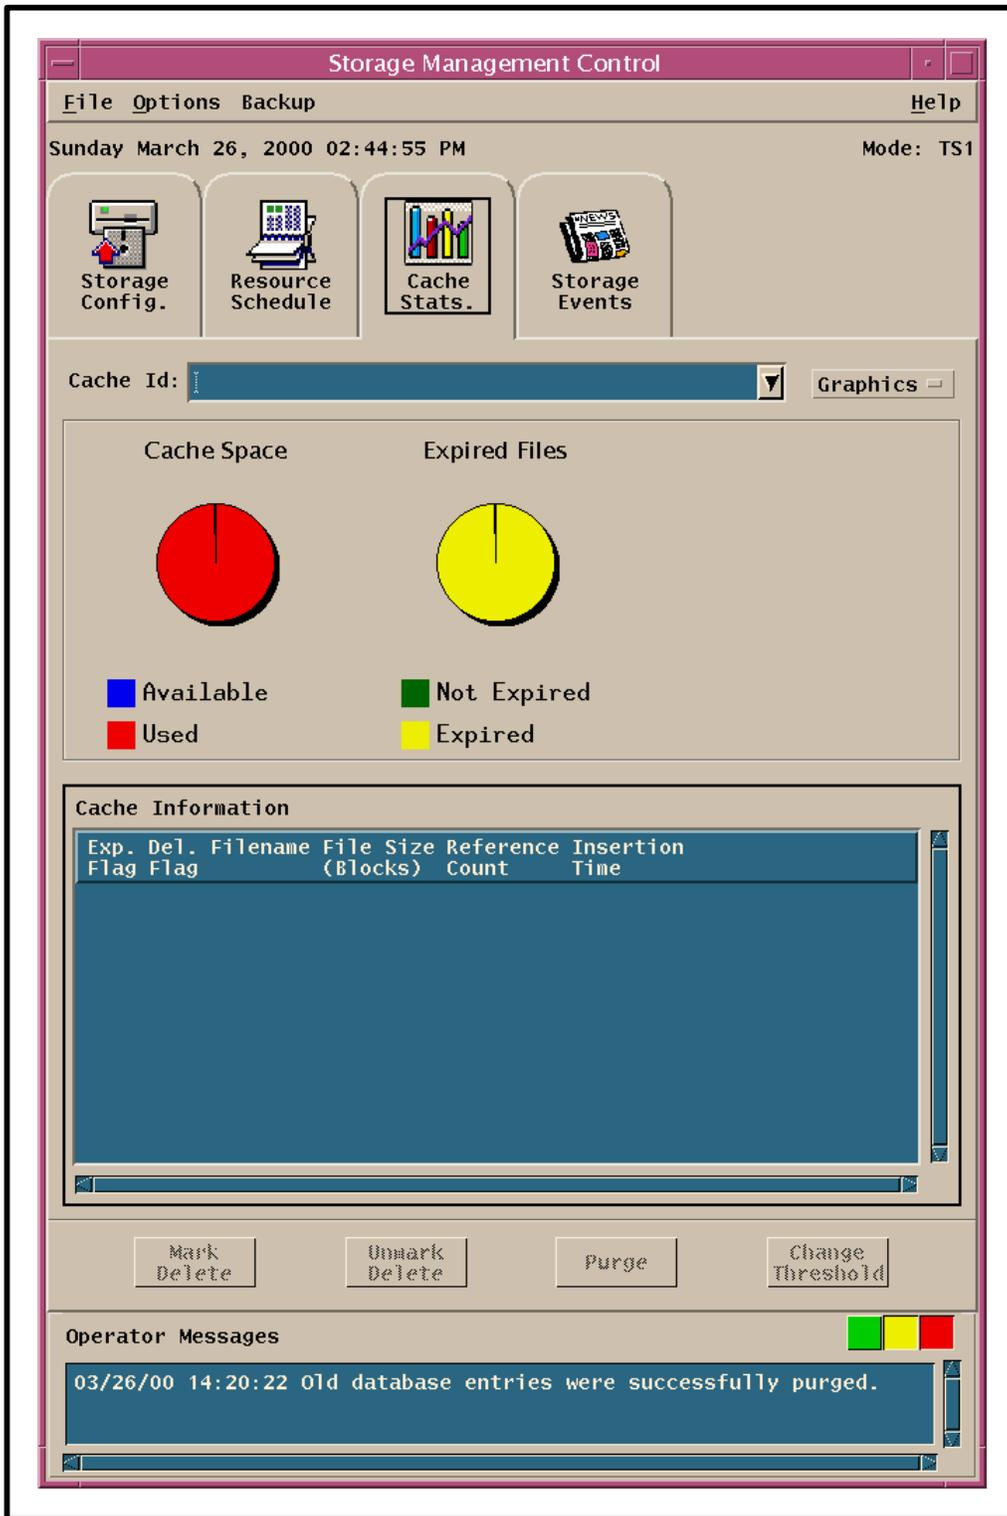
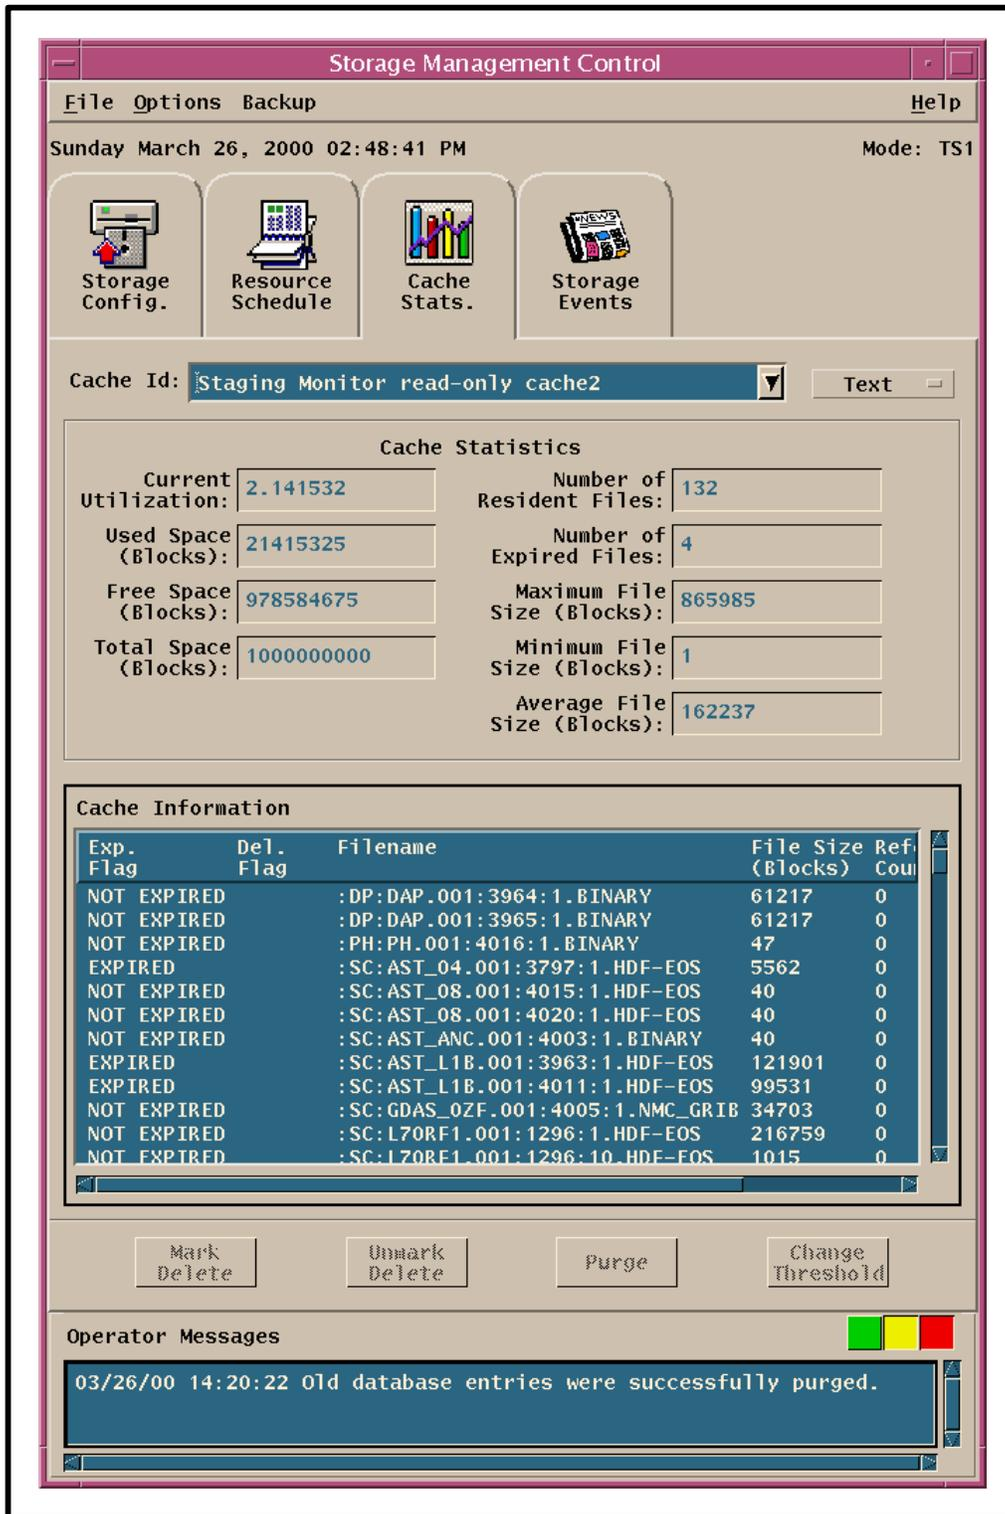

Figure 21. Storage Management Control GUI's Cache Stats. Tab - Graphical View
Figure 22. Storage Management Control GUI's Cache Stats. Tab - Text View
- Graphical view (Figure 21).
- Text view (Figure 22).
- The **Cache Stats.** tab (Figure 21) is displayed.
- The selected view of the **Cache Stats.** tab (Figure 21 or Figure 22) is displayed.
- The **Cache Stats.** tab (Figure 21 or Figure 22) reappears.
- The **Cache Stats.** tab (Figure 21 or Figure 22) is displayed.